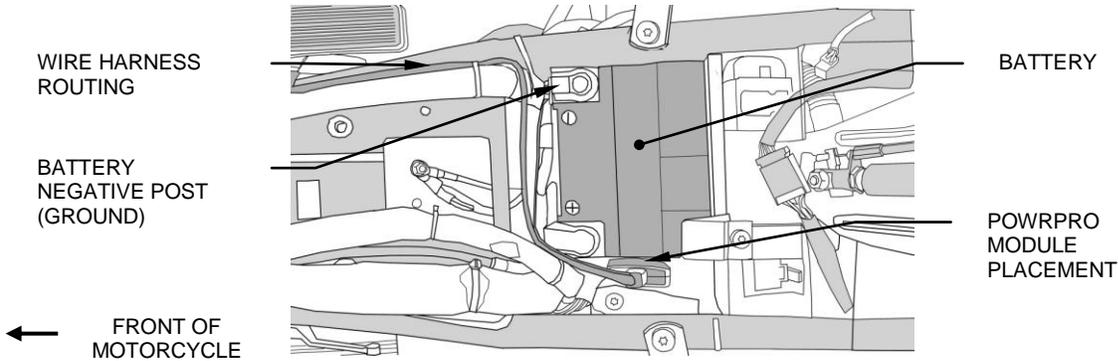
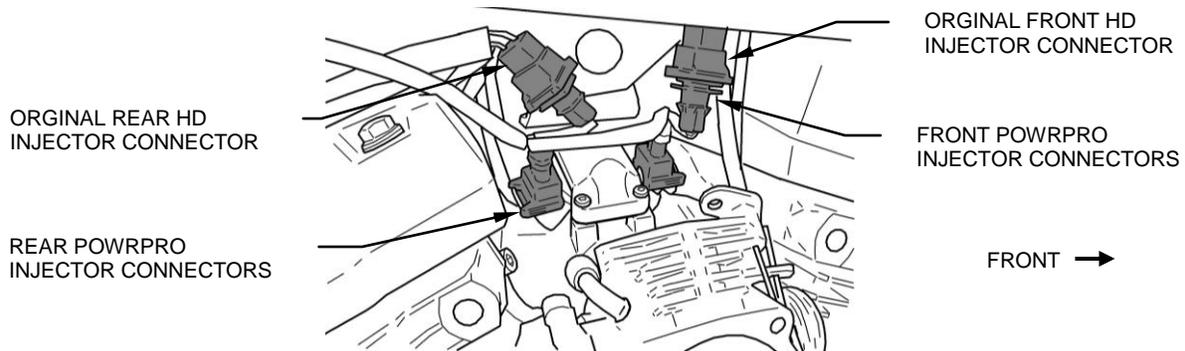

FIGURE 1
FIGURE 2
5. Lay the Powrpro module in place, but do not attach it to the motorcycle, and run the wiring harness up to the manifold area behind the other wiring of the throttle body (See Figure 1). Attach one pair of the Powrpro module's injector plugs to the front injector. Take the original HD connector and insert the corresponding Powrpro connector into it, see Figure 2.
6. Attach the Powrpro module's remaining injector plug to the rear injector. Take the original HD connector and insert the corresponding Powrpro connector into it, see Figure 2. Use one of the supplied zip-ties to secure the Powrpro wire harness to the upper motor mount before it is routed back towards the seat area.
7. Route the BLACK wire from the Cobra® module to the negative post of the battery as shown in Figure 1.
10. Remove the backing from the Velcro and attach the Powrpro next to the battery as shown in Figure 1.